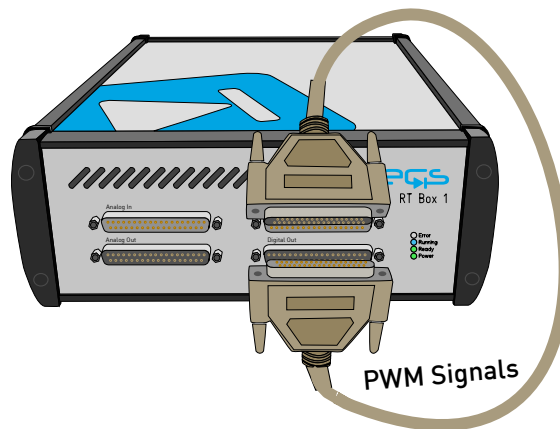

Fig. 3: Single RT Box with a loopback cable connected in front to run the minimal example demos
- 1** Connect the Digital Out interface to the Digital In interface of a single RT Box, using a DB37 cable shown in Fig. 3.